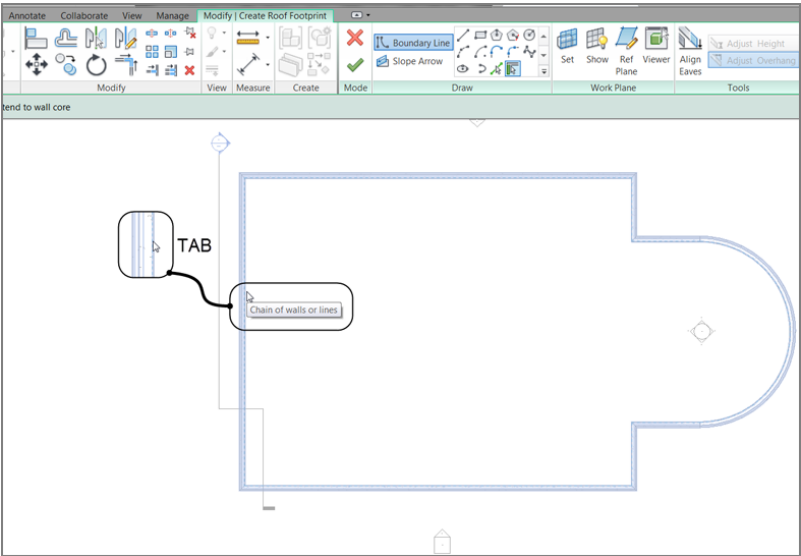

FIGURE 7.3 : Adding a sketch line to the perimeter of the building by picking walls
- 9. On the Modify | Create Roof Footprint tab, be sure the Pick Walls button on the Draw panel is selected, as shown at the right in Figure 7.3.
13. Hover your pointer over the leftmost vertical wall. When it becomes highlighted, press the Tab key on your keyboard. All the perimeter walls highlight. When they do, pick (left-click) anywhere along the wall. This places a magenta sketch line at the perimeter of the building (see Figure 7.3).